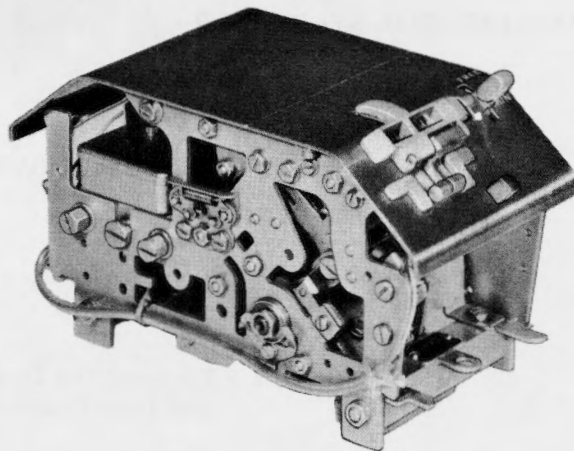

Figure 1 - Typical 5-Level Transmitter Distributor Unit
1.03 The single contact 28 transmitter distributor unit (Figure 1) is an electromechanical device, which reads code combinations perforated in tape, translates these combinations into electrical impulses, and transmits them in the form of a 5- or 6-level, start-stop permutation code to one or more receiving stations.